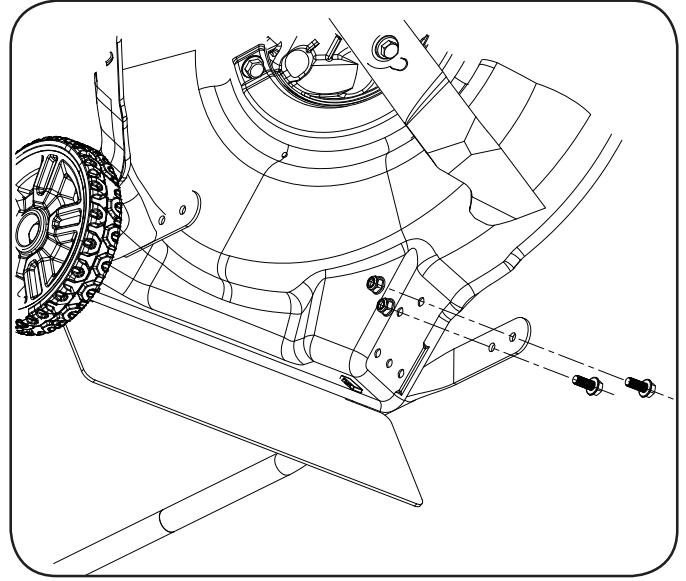

Figure 2
1. Fix the lower handle on mower deck by bolts and nuts (Figure 2).